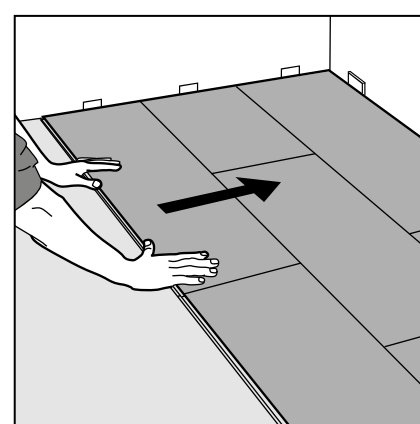

Figure 18 Remaining rows
7.2.8.6 Remaining rows (Fig 18) :